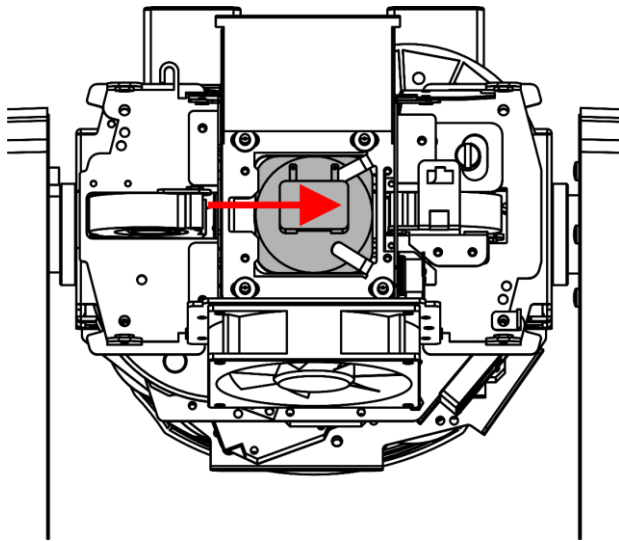

Fig. 21
- 05) Push the lamp carefully to the right against the 2 springs on the right side (Fig. 21).